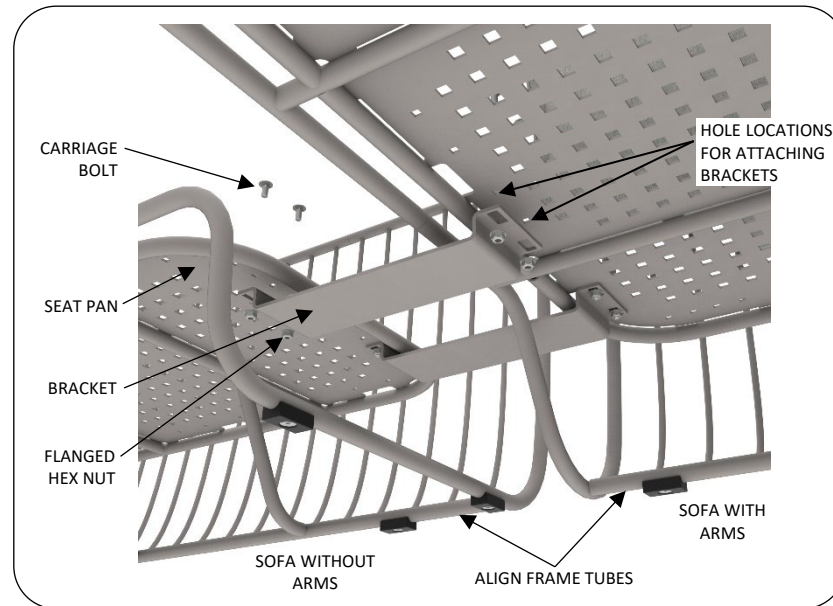

FIG 4 – BRACKET ATTACHMENT
2. Locate brackets on the sofa without arms as shown in Fig. 4. Brackets install on the bottom side of the seat pan. Insert carriage bolts from the top of the seat pan, so rounded head on bolt is at the top (and bolt will not catch on fabric of seat cushion).
4. Check alignment of the sofa frames, see Fig. 4, before attaching bracket to sofa with arms.